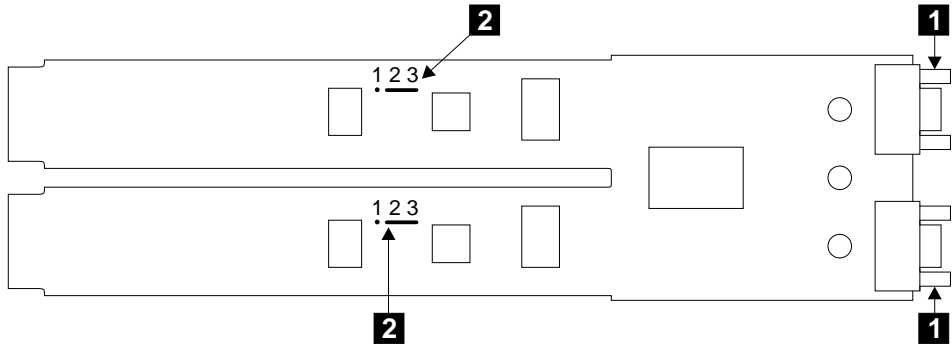

Figure 25. Bypass Card Set for Automatic Mode
- Step 5. Refer to Figure 25.
- Step 7. Note that, in Figure 25, the jumpers are set for **Automatic Mode**. That is, the jumpers **2** connect pins 2 and 3.
- a. Remove the jumpers, and install them into the required positions (see figures 25 and 26).